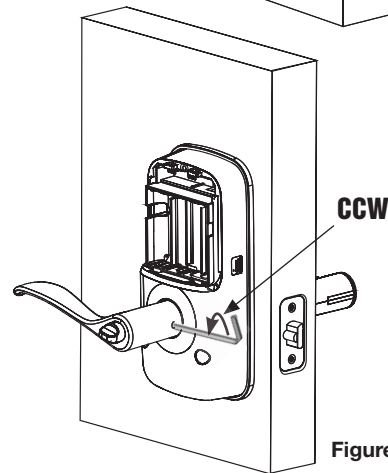

Figure 23
20. Secure lever handle by inserting hex key and rotating set screw **CCW** (Fig. 23).